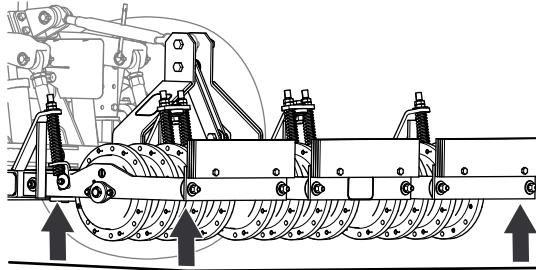

Figure 19
- 7. Adjust the links of the 3-point hitch to level the aerator left to right and front to back (Figure 19); refer to the operator's manual for your traction unit.